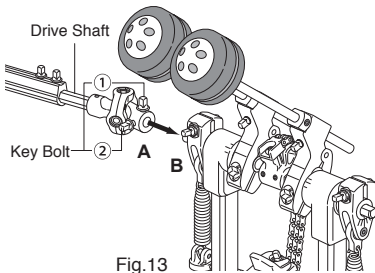

Fig.13
Connect the ends of the Drive Shaft (A) to the short extensions (B) on the Main and Slave Side Pedals and tighten Key Bolt 1 and then Key Bolt 2 (Fig.13 ,14).